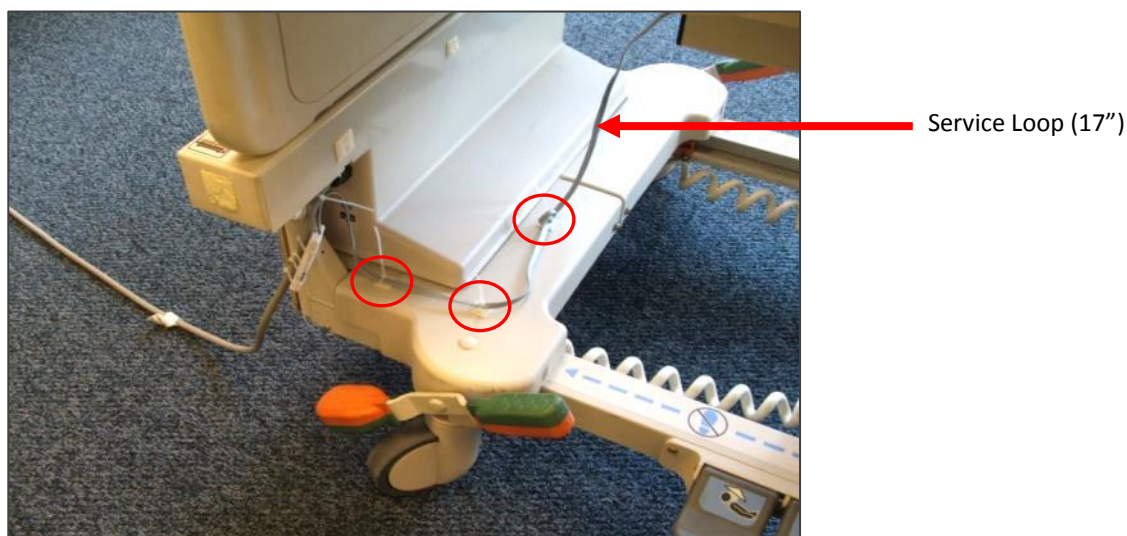

Figure 7. ALPS Cable Routing and Cable Tie Holder Placement
1. Place cable tie holders, cable ties and route cable to the Dock as shown (*see Figure 7, 8 & 9*). Make sure the mounting surface is clean and free of dirt and oil. A soft cloth dampened with isopropyl alcohol works well to clean mounting surfaces.